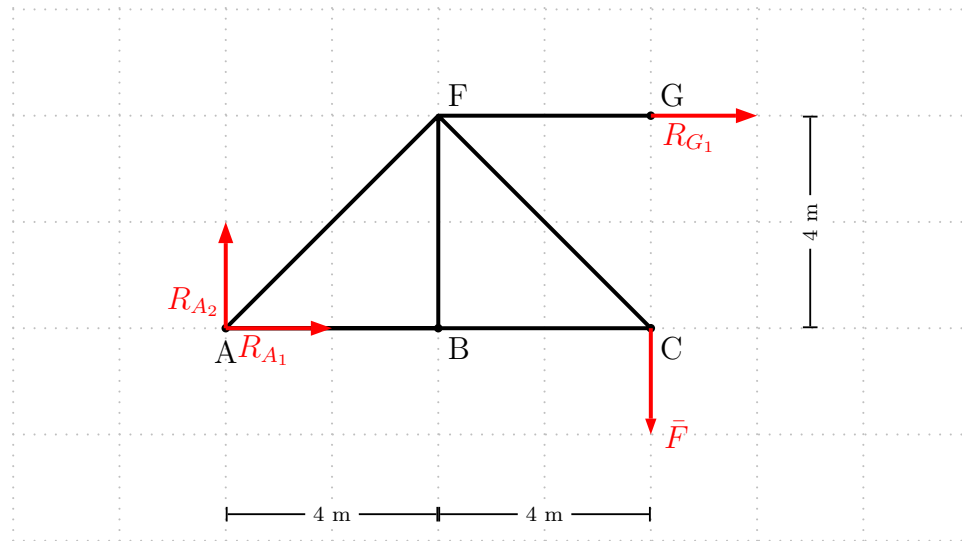

Figure 4
**Solution:** To compute the reactions, start by drawing a free body diagram, see Figure 4. From this write the equations of equilibrium.